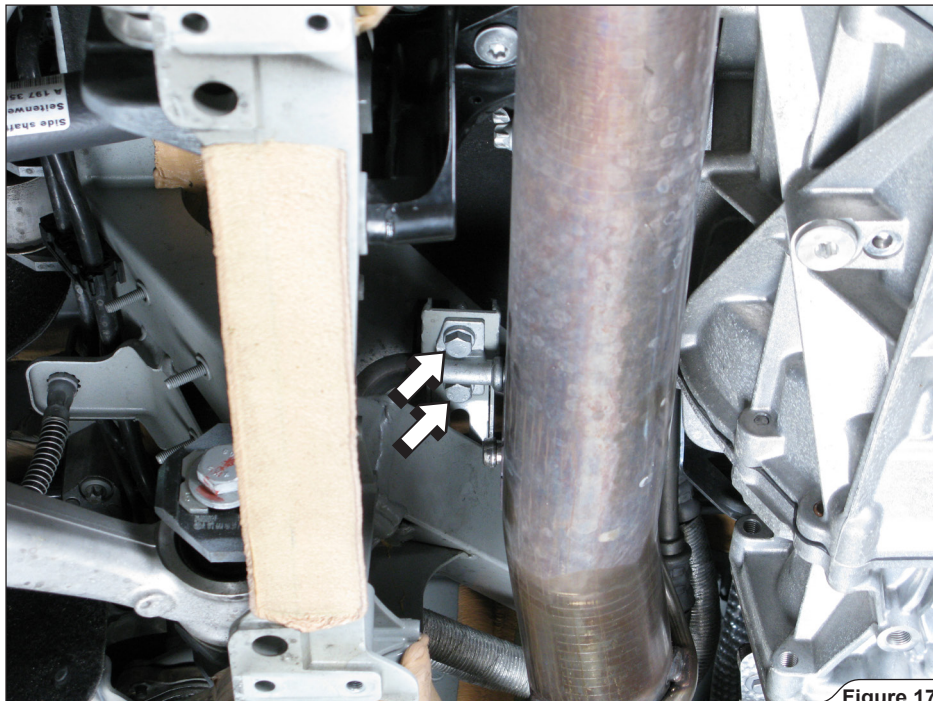

Figure 17
15. Unscrew marked exhaust brackets' bolts on both sides of the vehicle (**Figure 17**).